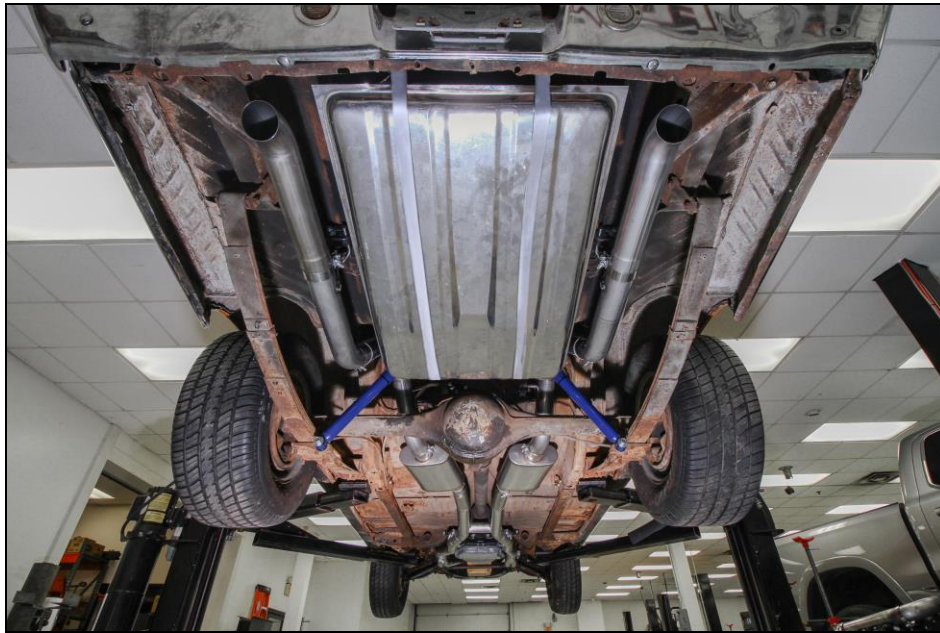

Figure 14
7. Install a band clamp on to the turn down and install on to the tailpipe extension. Tighten the clamp to allow for adjustment (**Figure 14**).